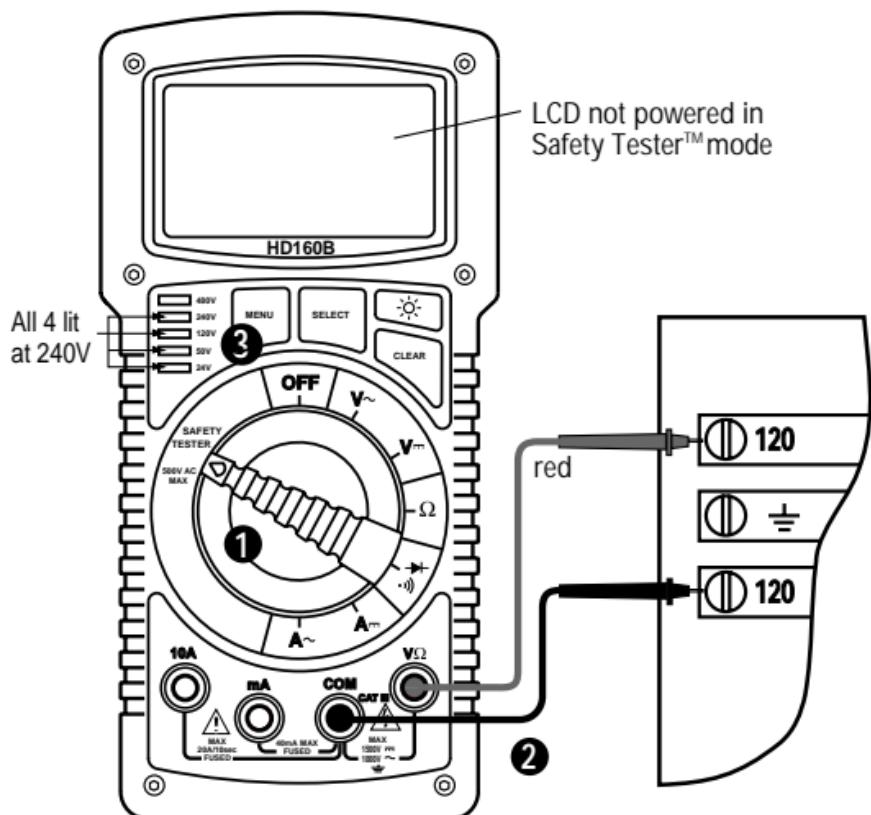

Fig. 1
SAFETY TESTER™ (See Fig. 1)
- ① Connect test leads as shown in figure 1. ② Turn function selector switch to V~ or V---. ③ Touch Probe tips across voltage source (in parallel with circuit). ④ Voltage value will appear on Digital Display along with the voltage polarity (for DC).